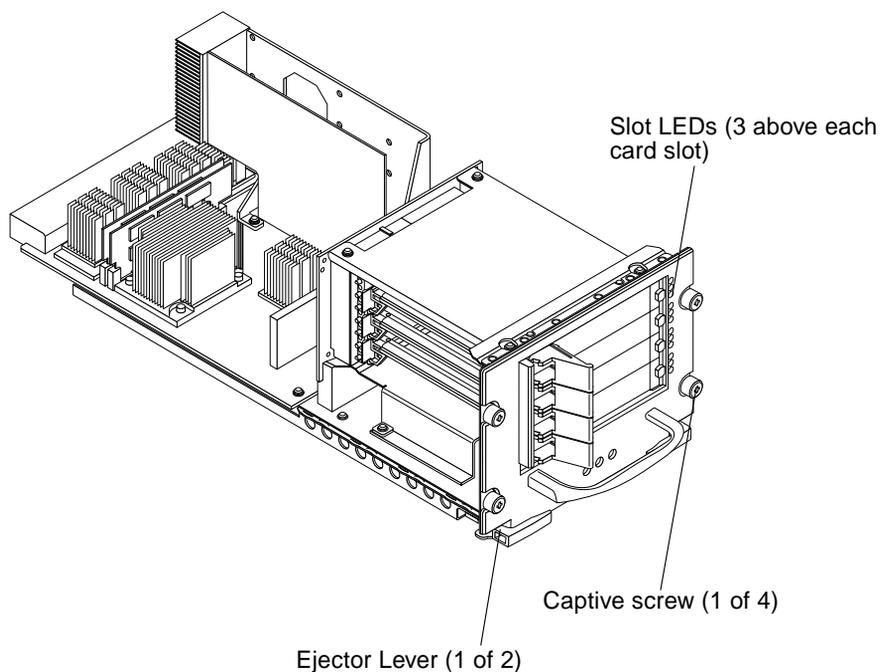

FIGURE 2-3 Sun Fire Link Assembly
- 3. Loosen the four Phillips captive screws (FIGURE 2-3).**
7. **Tighten the four captive Phillips screws (FIGURE 2-3).**
There are three LEDs (*slot LEDs*) for each card slot on the Sun Fire Link assembly (FIGURE 2-3). When installed in slot IB8, the LEDs are at the bottom of the assembly. When installed in slot IB9, they are at the top of the assembly. TABLE 2-2 notes the slot LED functions.